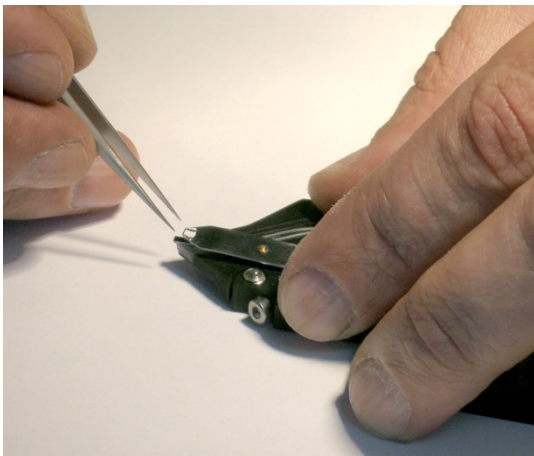

Figure 3.4.2 Installing the probe into the holder
- Open up the probe's spring clip by pressing the probe holder to table surface (**fig. 3.4.2**).